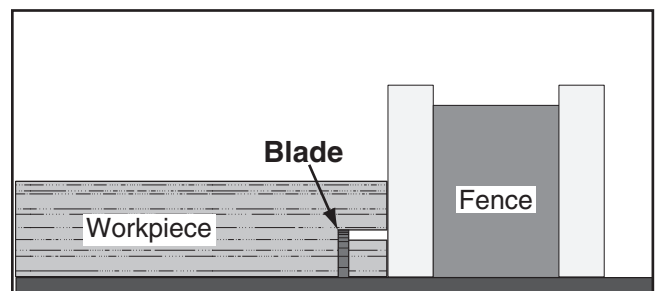

Figure 101. Second cut to create a rabbet.
7. Lay the workpiece flat on the table, as shown in **Figure 101**, adjust the saw blade height to intersect with the first cut, then perform the second cut to complete the rabbet.